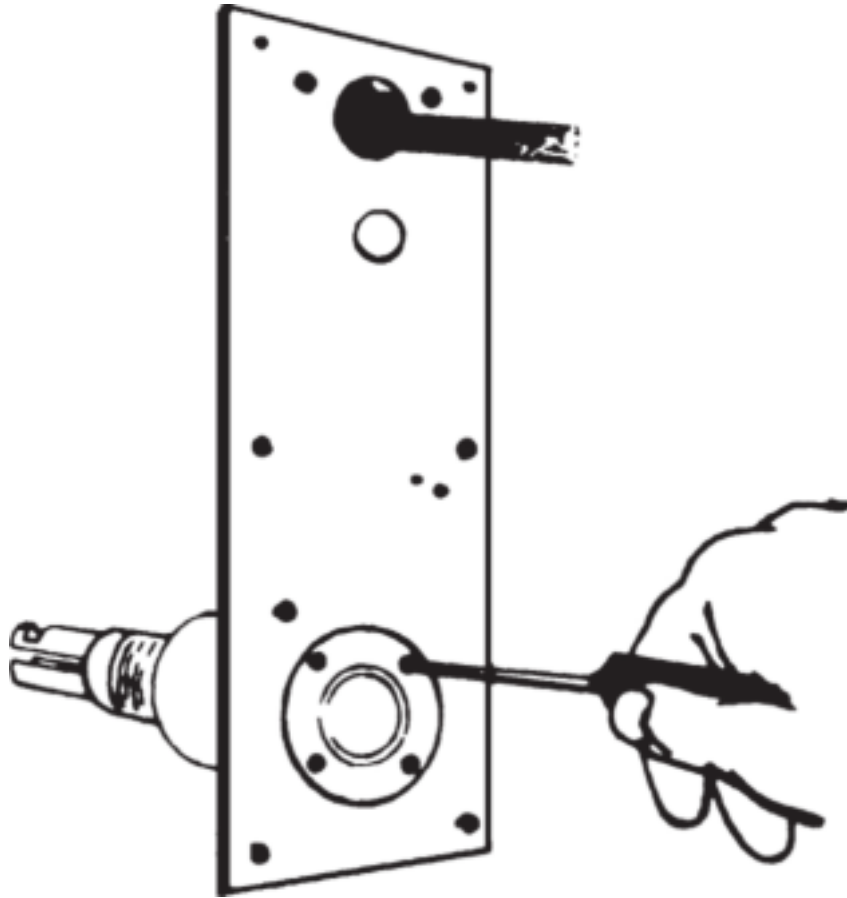

**Figure 18.34** The four screws must be removed so the cylinder can be rotated, if necessary. (*Simplex Access Controls Corp.*)
***Changing the hand.*** Unless otherwise specified in your order, all Unican 1000 series locks are factory assembled for left-hand operation. To change it to right-hand operation, remove the backplate containing the cylindrical unit from the lock case by removing the Phillips head screws. Remove the four Phillips head screws holding the cylindrical unit at the backplate (Fig. 18.34 ) and rotate the cylindrical unit so that the cutout for the latch faces in the opposite direction.